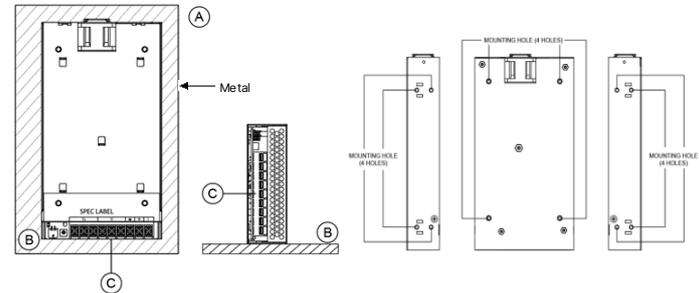
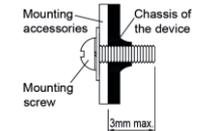

Fig. 3. Recommended Mounting Orientations & Mounting Hole Locations
Fig. 5. Assembly Reference
- ① Input & Output terminal block connector
- ② DC voltage adjustment potentiometer
- ③ DC OK control LED (Green)
- ④ Remote ON/OFF and Remote Sense connector
- **A** Mounting: Fig. 3 show the mounting hole locations for power supply assembly onto a metal mounting surface. Fig. 5, only use M4 screw  $\leq 3$  mm (0.20 inch) through the base mounting holes. This is to keep a safe distance between the screw and internal components.
- **B** Fig. 3: This surface belongs to customer's end system or panel where the device is mounted.
- **C** Fig. 3: Connector